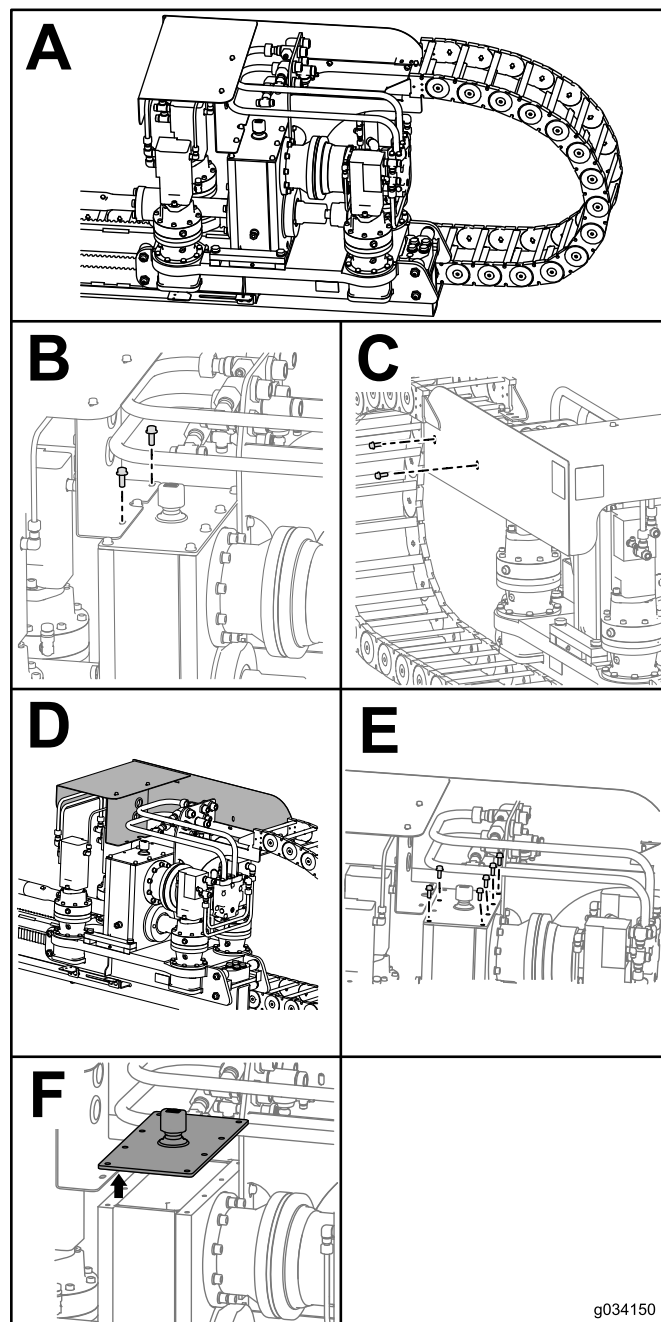

Figure 107
3. Remove the 2 bolts and nuts on the carriage guard (Box B of Figure 107).
4. Remove the 2 bolts and nuts on the side of the carriage guard (Box C of Figure 107).
5. Slide the carriage guard forward (Box D of Figure 107).
6. Remove the 6 bolts on the gearbox (Box E of Figure 107).
7. Remove the cover on the gearbox and syphon the oil out (Box F of Figure 107).
11. Slide the cover back onto the gearbox and loosely install the 6 bolts (Box E of Figure 107).
12. Place the carriage guard back into place and loosely install the 2 bolts (Box C of Figure 107).
13. Install the 2 bolts securing the carriage guard onto the gearbox (Box B of Figure 107).